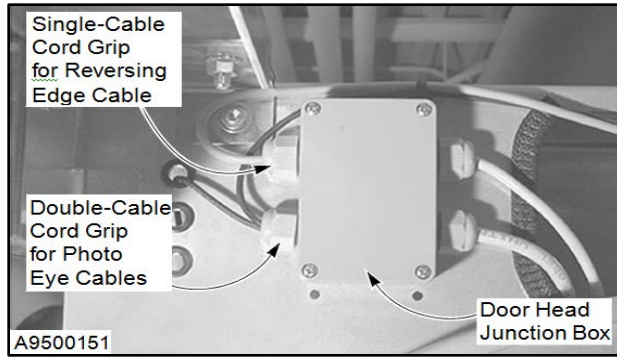

Figure 21
3. Remove the cover from the door head junction box located above the drive motor assembly. (See Figure 21.)